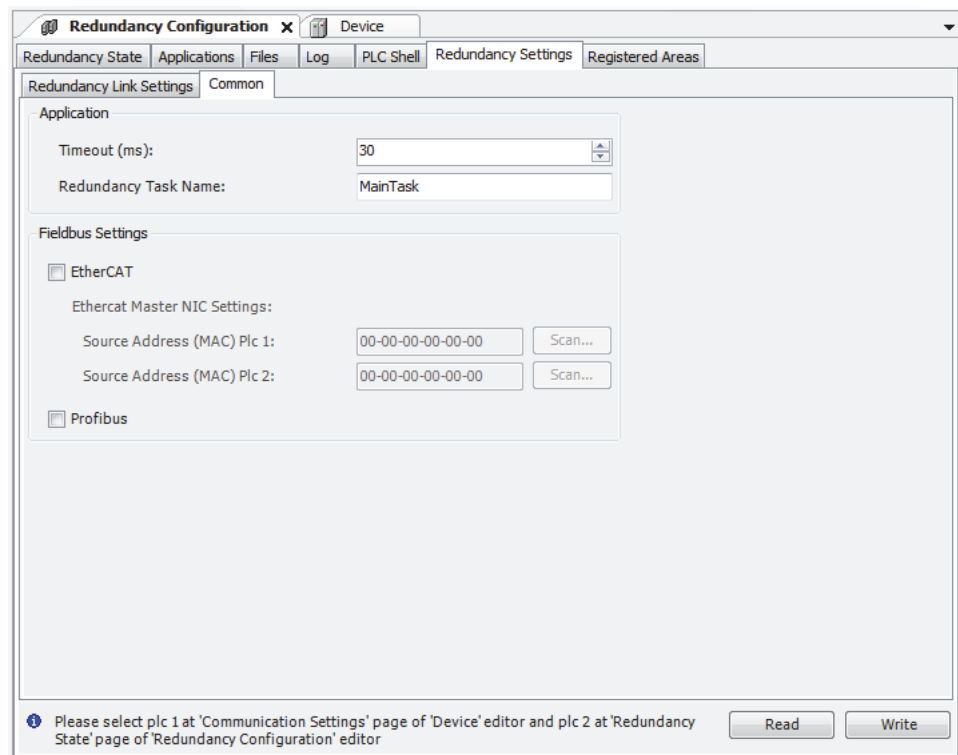

Figure 5-6 Common Tab
12. Select the Common tab. The Common tab is shown in Figure 5-6.